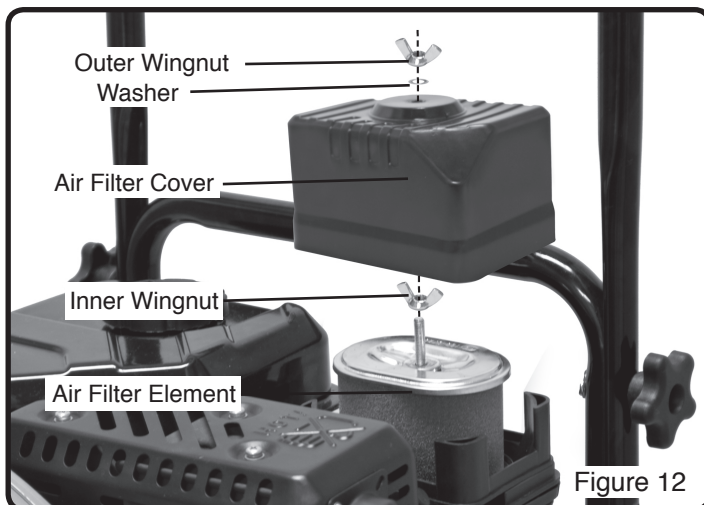

Figure 12
**NOTE:** Refer to Figure 12 when following steps below: